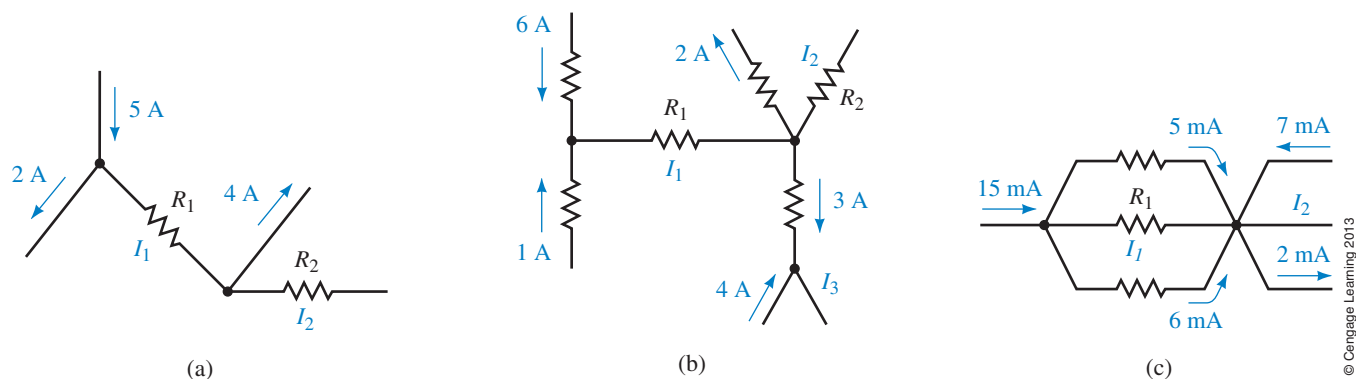

FIGURE 6–48
5. Use Kirchhoff's current law to determine the magnitudes and directions of the indicated currents in each of the networks shown in Figure 6–48.
6. For the circuit of Figure 6–49, determine the magnitude and direction of each of the indicated currents.